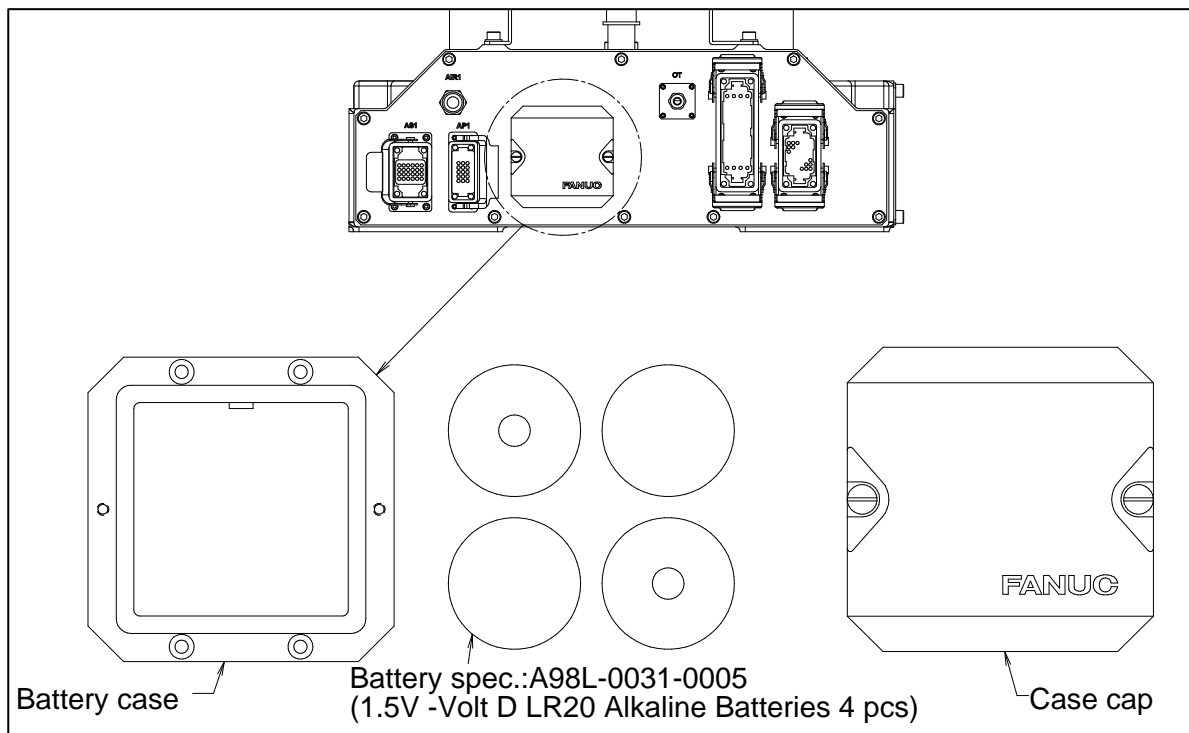

Fig. 8.3.1 (a) Replacing the battery
- 2 Remove the battery case cap (Fig. 8.3.1 (a)).